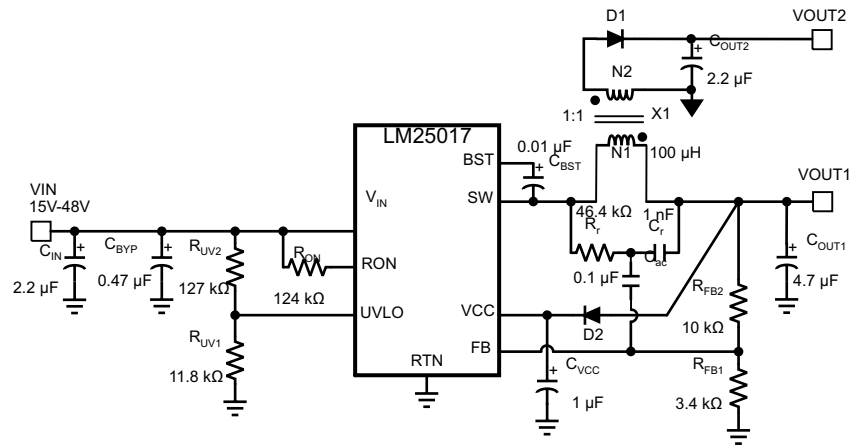

图 8-5. Typical Isolated Application Schematic
An isolated supply using LM25017 is shown in 图 8-5. Inductor (L) in a typical buck circuit is replaced with a coupled inductor (X1). A diode (D1) is used to rectify the voltage on a secondary output. The nominal voltage at the secondary output (V_{OUT2}) is given by 方程式 17.